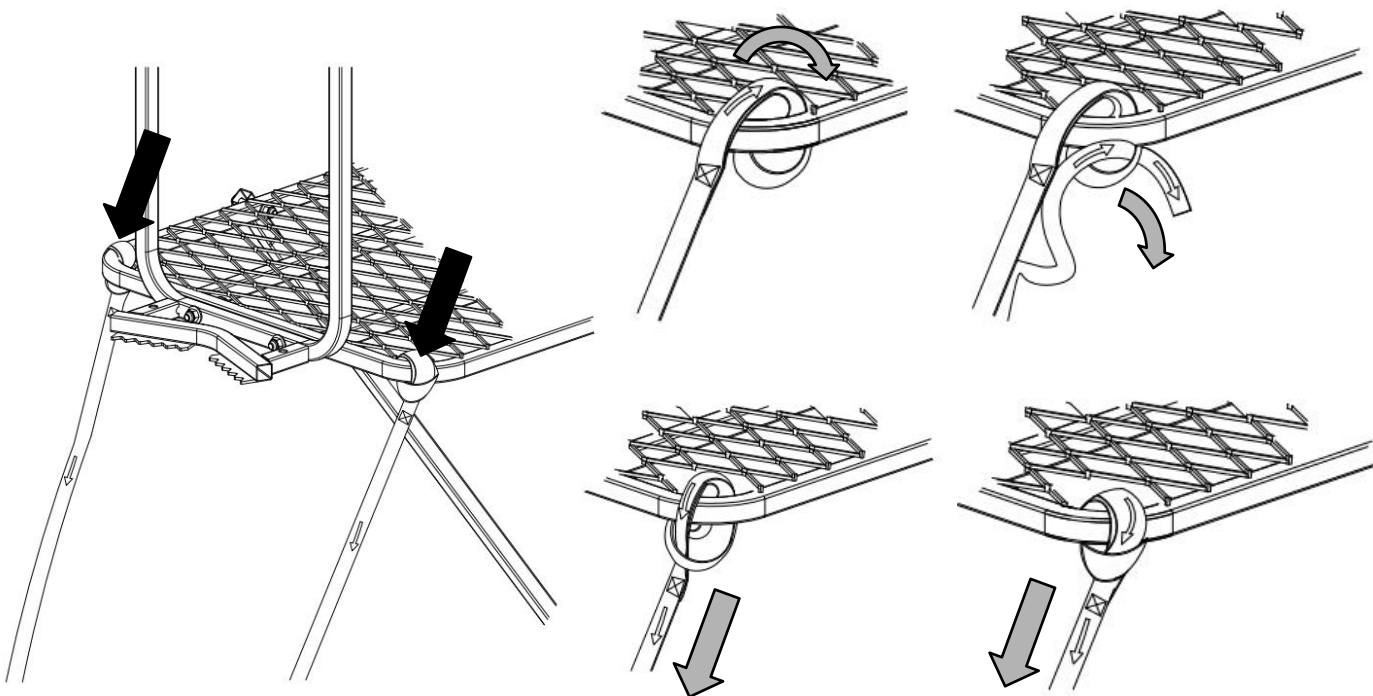

Figure 22
Attach the two (2) Stabilizer Straps (#23) to both the left and right sides of the standing platform as shown in Figure 22. Attach by looping strap loop around back corner of standing platform tube and insert end of strap through strap loop. Pull tight so strap is secure on platform tube and positioned next to tree brace. Repeat for strap on other side of standing platform tube.